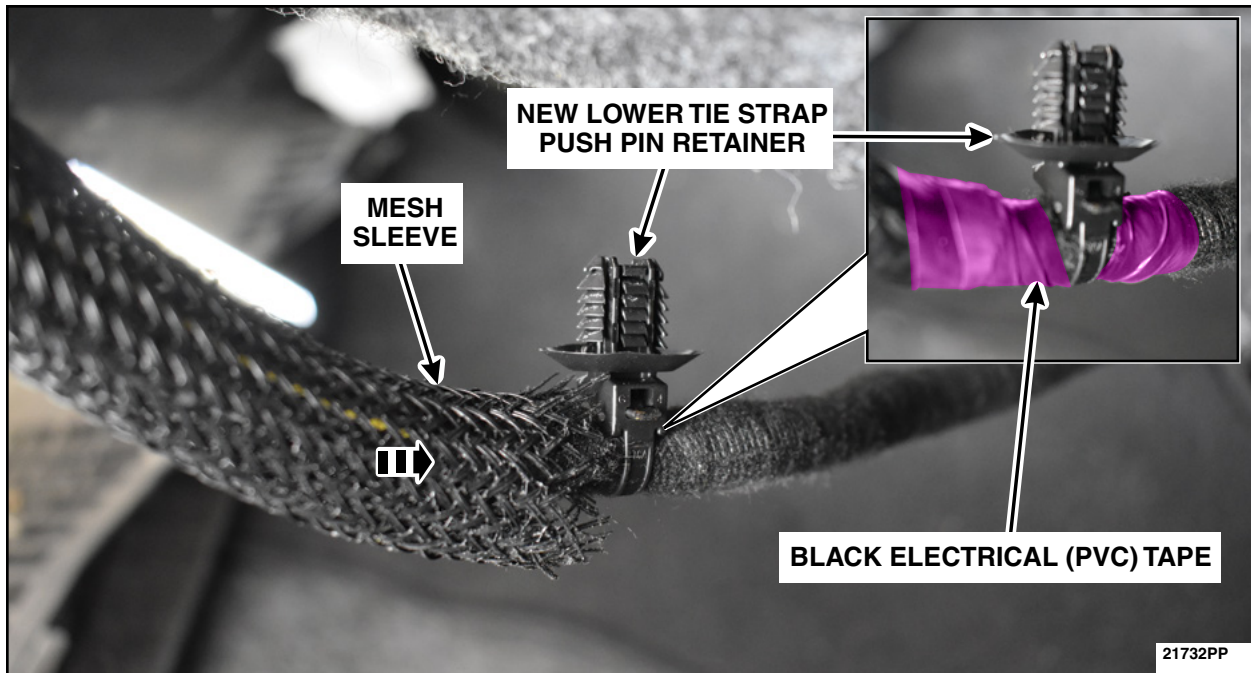

FIGURE 49
68. Position the mesh sleeve to the new lower tie strap push pin retainer and secure using some KT173510 or equivalent black electrical (PVC) tape. See Figure 49.